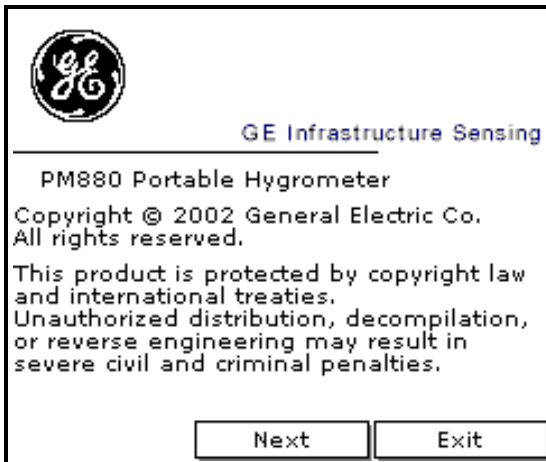

Figure 32: About Window
3. Use the arrow key to scroll to **About** and press [ENTER]. A screen similar to Figure 32 appears.